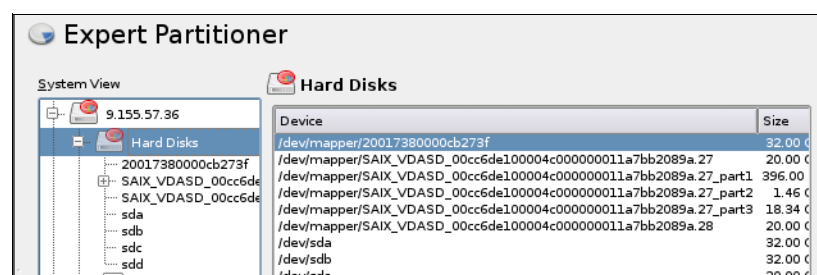

Figure 4-10 Selecting multipath device for installation
5. Confirm your selection, and then the tool rescans the disk devices. When finished, it presents an updated list of hard disks that also shows the multipath devices it found (see Figure 4-10).